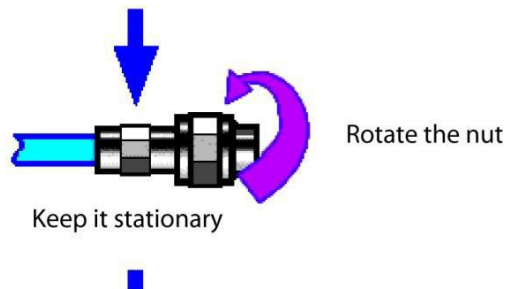

Fig. 3.5 Diagram of connector rotation
Step 2: as shown in Fig. 3.5, horizontally move two connectors to make them connected smoothly. Tighten the connector nut by means of rotation (do not rotate the connector). Avoid relative rotation of connectors during connection.